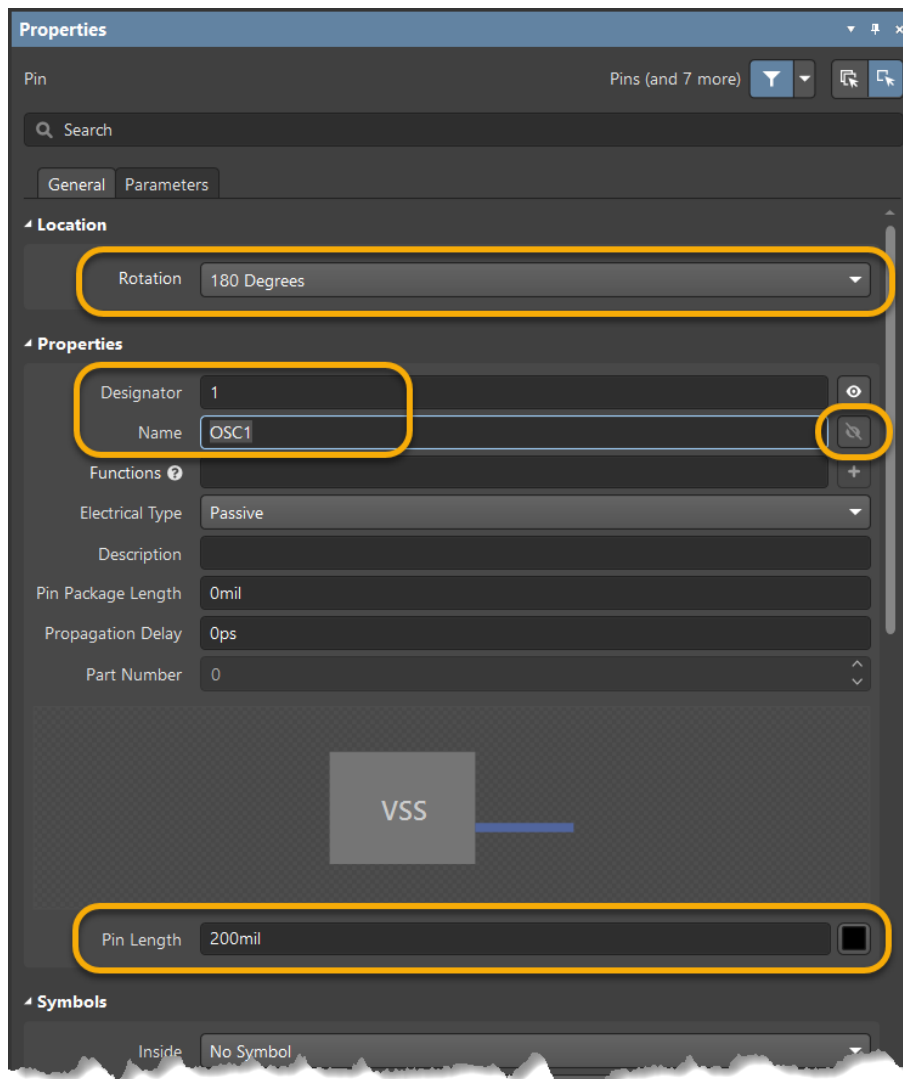

Figure 15. Pin Properties
18. Configure the settings to match those shown in Figure 15. Hit the **Enter** key or select the **Pause** icon (II) after you've updated all the field, to continue with the pin placement.